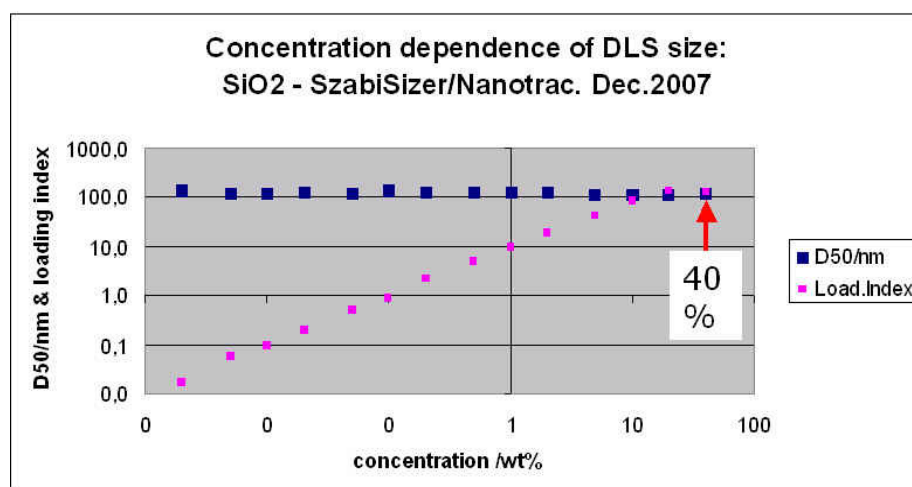

Fig. 6: Due to the lack of multiple scattering a large concentration range is guaranteed
2. Therefore highest concentration range – example see Fig. 6